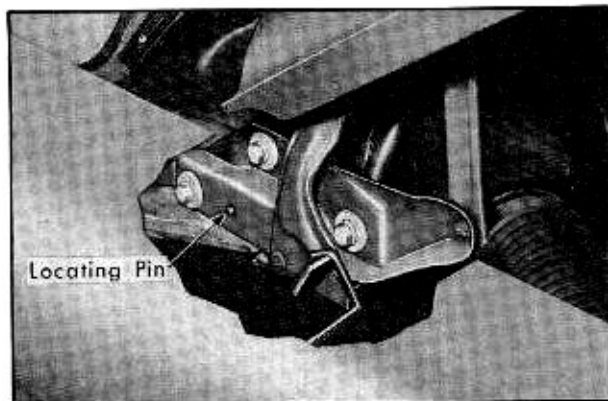

Fig. 4-3 Hood Hinge Adjustment
1. Loosen hinge to cowl mounting screws, install a short 3/8" diameter pin in hole in hinge, and move hinge until pin will also enter hole in cowl. This will hold hinge in position at this point. Fig. 4-3.